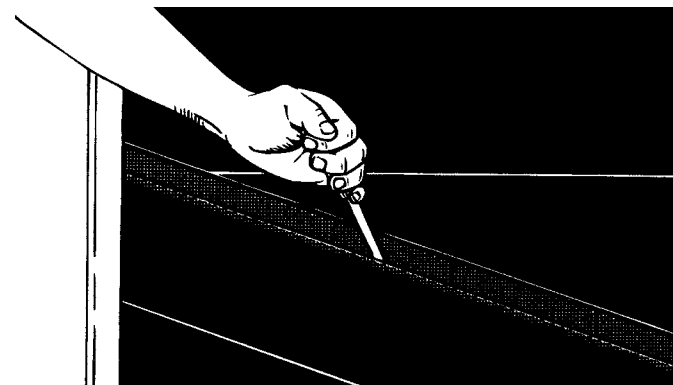

Fig. 11-5
- Connect the vertical lines marking the bias line. This will now be the first ply cut. Using the correct ply knife, cut the top ply along this line (Fig. 11-5).